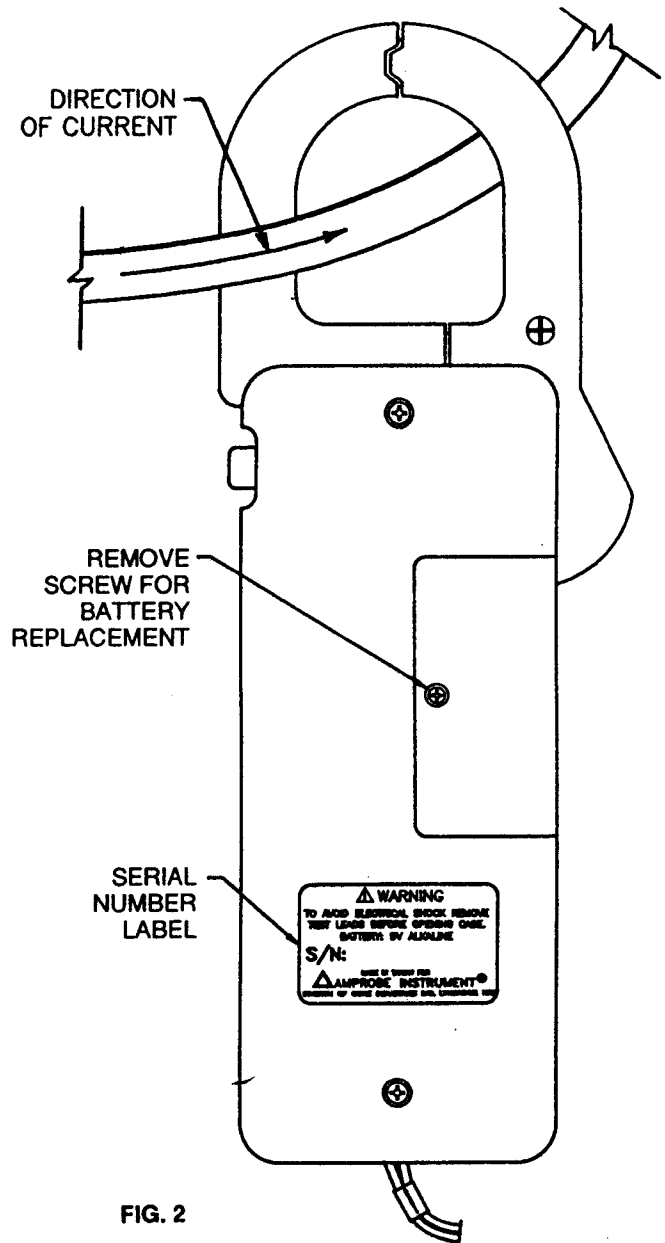

FIG. 2
Remove a single screw from the battery compartment cover and slide cover off by pushing it away from the instrument. Carefully snap a new battery into the connector. Align compartment cover and slide into place. Insert screw and tighten. See Fig. 2.
Note: If more than one DC Amp measurement is to be made, the instrument should be zeroed away from the conductor before each subsequent measurement. See (4) above for zeroing procedure. "-" Will appear in the display if direction of current is not as in Fig. 2.